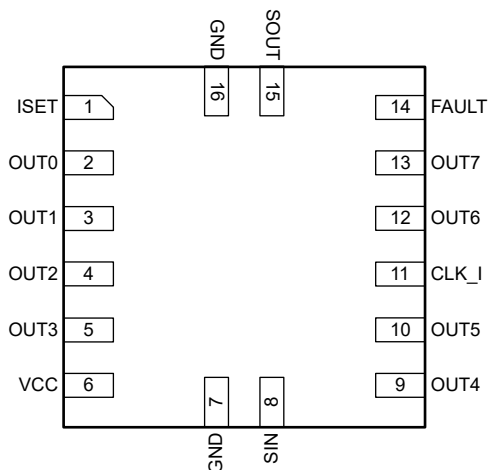

Figure 4-1. Pin Diagram (X2QFN (16)) Package
4.1 X2QFN (16) Package
Figure 4-1 shows the TLC69621-Q1 and TLC69631-Q1 pin diagram for the X2QFN (16) package. For a detailed description of the device pins, see the *Pin Configuration and Functions* section in the TLC69621-Q1 and TLC69631-Q1 datasheet.